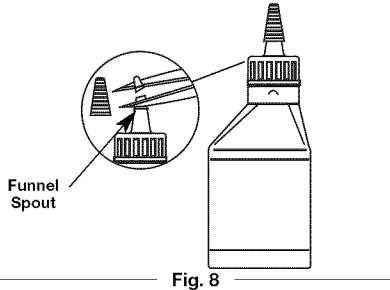

Fig. 8
Your unit is supplied with one 3.04 fluid oz. (90 ml.) bottle of SAE 30 SF, SG, SH oil (Fig. 8).
NOTE: Save the bottle of oil. It can be used to measure the correct amount during future oil changes (Fig. 8). See *Changing the Oil*.
1. Unscrew the top of the bottle of oil and remove the paper seal covering the opening. Replace the top. Next, cut the tip off the funnel spout (Fig. 8).